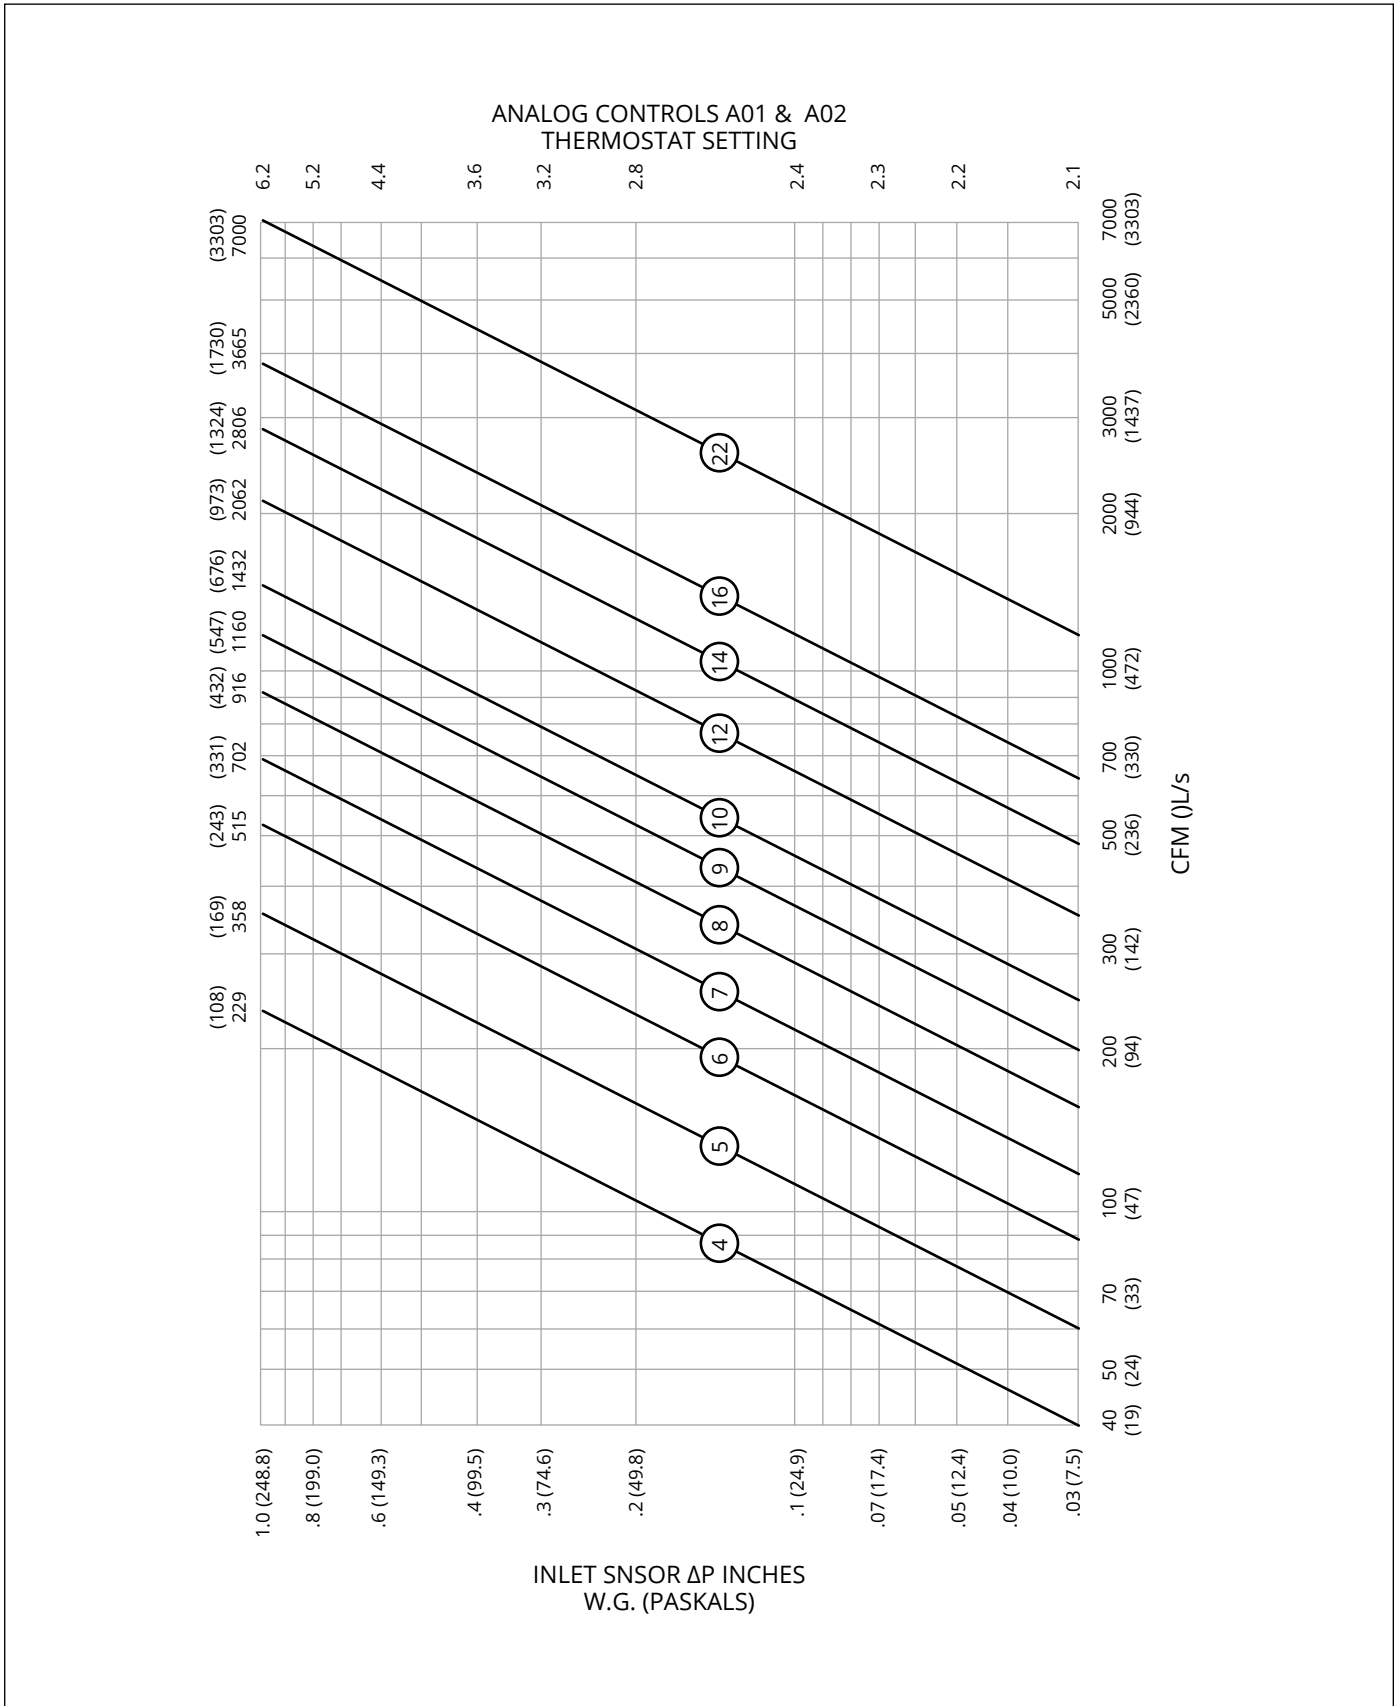

Figure 6 - Krueger Inlet Airflow Sensor Chart
NOTE: Refer to wiring diagram attached to each unit for specific information on that particular unit. Units with 480-3-60 electric heater REQUIRE 4-wire, wye connected power. Units with 208/230v, 3-phase heater can be connected with 3-wire power. Unit airflow should not be set outside of the range noted in Figure 6. The minimum recommended airflow for units with electric heat must be at least 75 cfm per kW and not drop below the minimum values listed in Table 6.A. The maximum unit discharge temperature should not exceed 120°F. To prevent air stratification, the ASHREA Handbook of Fundamentals recommends a discharge temperature not to exceed 90°F.
Each unit is equipped with an amplifying inlet airflow sensor that measures a differential pressure proportional to the airflow. The relationship between the inlet airflow pressures and cfm is shown in the Figure 6 – Krueger Inlet Airflow Sensor Chart. This chart is attached to each unit.
7. Read the differential pressure and enter the Krueger Inlet Airflow Sensor Chart (Figure 6) to determine the airflow in the terminal unit. For example, a differential pressure of 0.10 in. wg for a size 8 unit yields an airflow of 290 cfm.
- c. Adjust the minimum volume control knob (marked LO and located in the center of the controller) to achieve the required minimum flow. To determine the required pressure differential, refer to Table 1, Table 2, and the Krueger Inlet Airflow Sensor Chart that is provided on the side of the VAV unit and in Figure 6.
- e. Adjust the maximum volume control knob (marked HI and located at the side of the controller) until the desired pressure differential is registered on the manometer. To determine the required pressure differential, refer to Table 1, Table 2, and the Krueger Inlet Airflow Sensor Chart that is provided on the side of the VAV unit and in Figure 6.
- c. Adjust the maximum volume control knob (marked HI and located in the center of the controller) to achieve the required minimum flow. To determine the required pressure differential, refer to Table 1, Table 2, and the Krueger Inlet Airflow Sensor Chart that is provided on the side of the VAV unit and in Figure 6.
- e. Adjust the minimum volume control knob (marked LO and located at the side of the controller) until the desired pressure differential is registered on the manometer. To determine the required pressure differential, refer to Table 1, Table 2, and the Krueger Inlet Airflow Sensor Chart that is provided on the side of the VAV unit and in Figure 6.